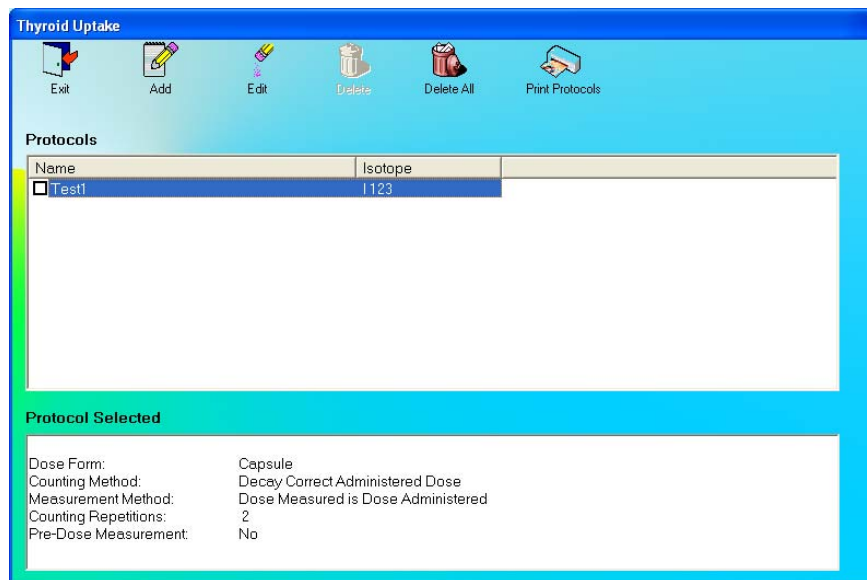

Figure 7-4
1. Click on the desired protocol in the **Protocols** box on the Protocols screen or use ↓ and ↑ keys to select the desired protocol for editing or viewing. As shown in Figure 7-4, the selected protocol's settings are shown in the **Protocol Selected** box.